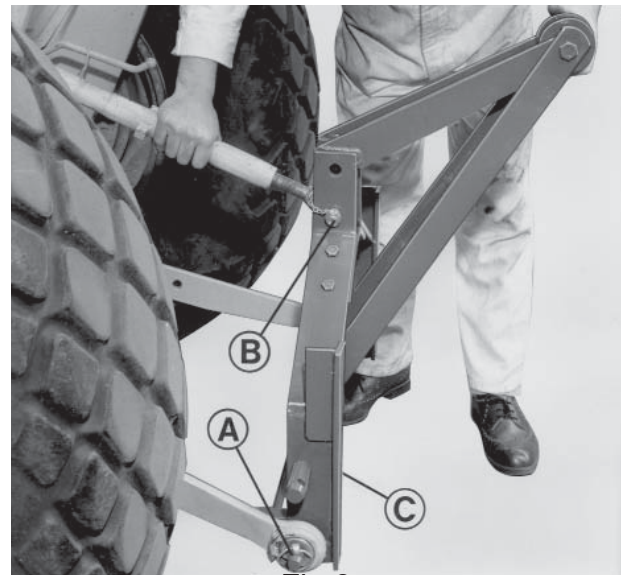

Fig 8
4. (Fig. 8). Slide the ball joint of the two bottom tractor arms over the end of the lifting spindle (A) using the upper point for Ford and British Leyland tractors, and the lower ones for Massey Ferguson and David Brown tractors. Insert the retaining pins supplied with the tractor.